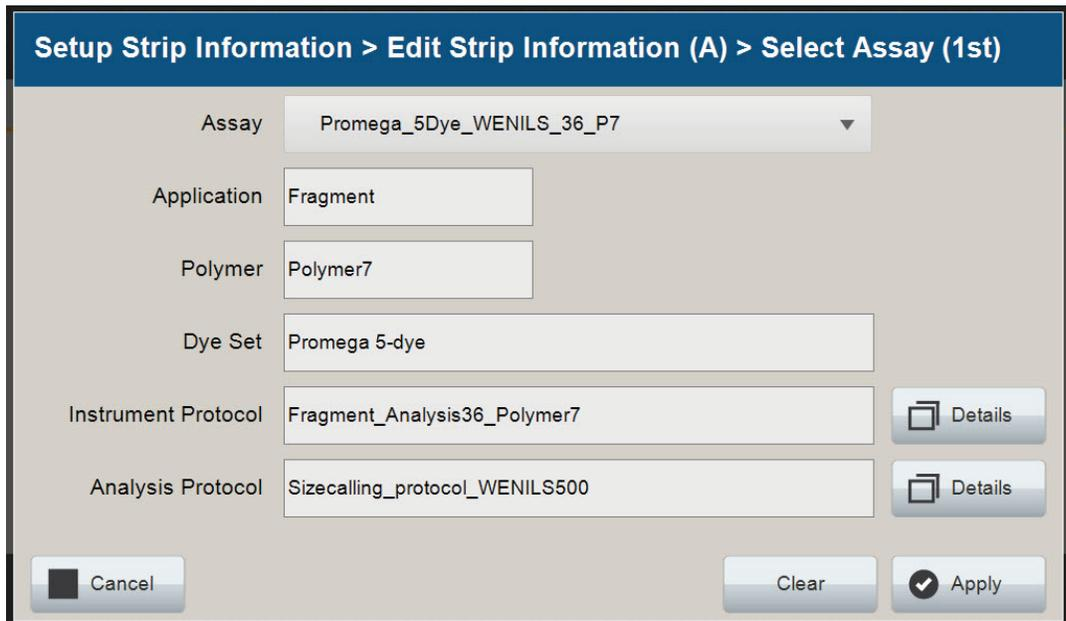

Figure 17. Accessing Instrument and Analysis Protocols on 'Select Assay' window.
8. You can verify the settings of the Instrument Protocol and Analysis Protocol associated with the assay chosen by selecting **Details** next to these fields (Figure 17). This will display a window showing the settings in these protocols but will not allow you to edit these settings. Refer to the *Spectrum Compact CE System Operating Manual #TMD058* to edit the Instrument Protocol or Analysis Protocol. When the assay information is confirmed, select **Apply** to return to the 'Edit Strip Information' screen.